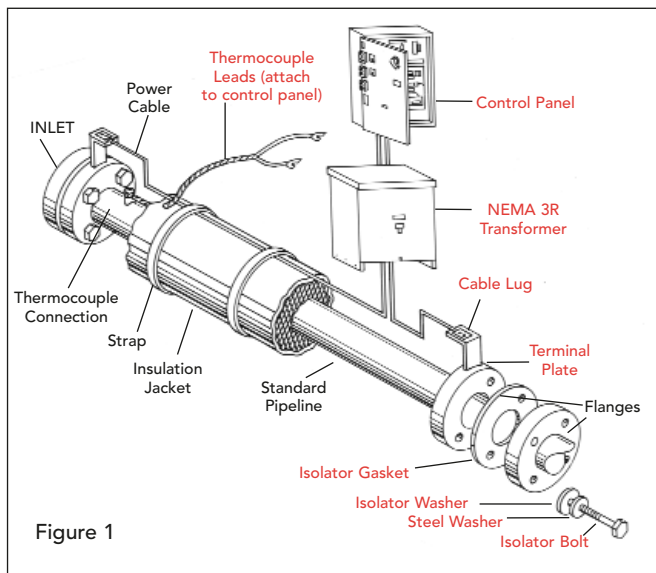

Figure 1
2. When heating a straight length of pipe, it is necessary to attach a power cable to one end (see Figure 1). The cable is normally laid on the pipe's insulation jacket. The current flow in a typical impedance system is enough to set up a significant magnetic field around the cable. Since most pipes are made from magnetic materials, steel being the most common, the magnetic field interacts with the pipe, producing the second component of heat, skin effect/proximity effect.